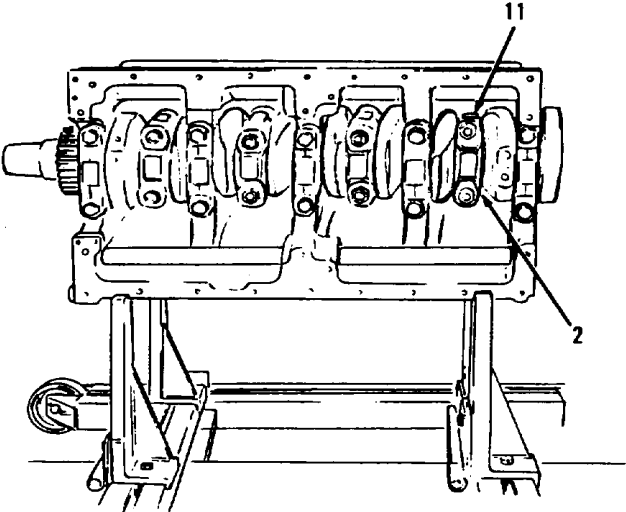

Figure 13-39.
- 4. Inspect connecting rod (11) and cap (2, Figure 13-39) on bottom of cylinder block for identifying mark. If no mark is present, scribe or stamp numbers to ensure installation in original location.